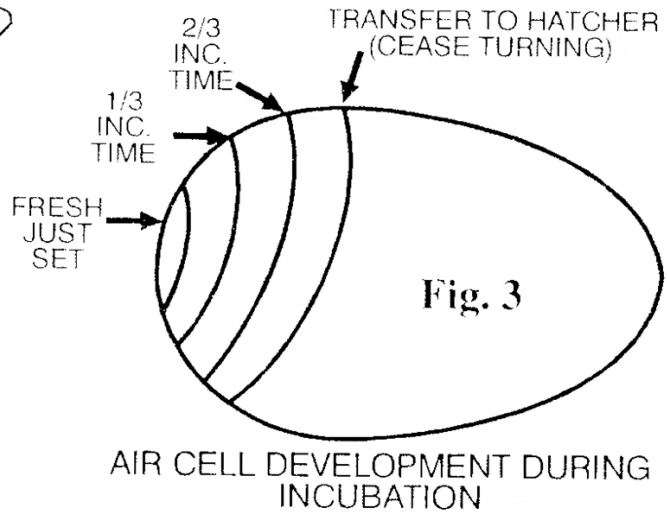

Fig. 3
8. Candling the eggs is a useful technique for assessing the process of incubation. Candling is carried out in a darkened room using a small light source. This can be a torch with a cover attached and a hole about 15 to 20mm diameter. When directed at the large end of the egg the inside of the egg will be illuminated. Look through the side of the egg. This will show the air cell, and the growth of the embryo. The development of the air cell is shown in (Fig 3). The eggs should be candled at 7 days and any clear eggs, eggs where the embryo is stuck on the shell, or eggs with broken blood vessels should be removed. Experience will show up these eggs. Healthy embryos will show up as a spidery network of veins with a central embryo.